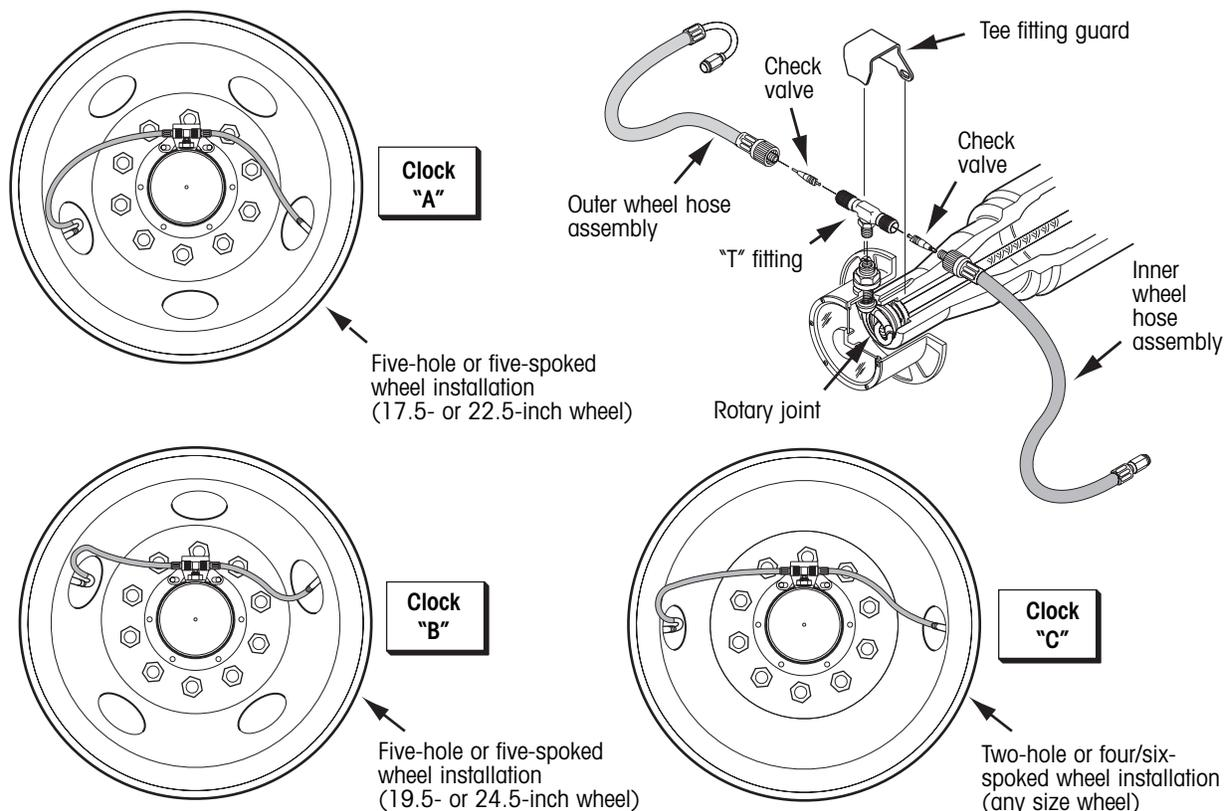

Figure 24. Tee and tire hose installation
1. Position the hubcap and wheel so the hoses will not stretch or rub on the wheel. Refer to figure 24 and the table on this page.
**⚠ CAUTION:** Wheel must be properly “clocked” to the hubcap to prevent the hoses from rubbing on the wheel (figure 24). Failure to do so may result in hose failure.
2. Apply a small amount of thread sealant to the tee fitting swivel threads and screw the tee fitting onto the rotary joint bulkhead adapter. Tighten finger tight then use a wrench to tighten an additional one-quarter turn (figure 24).
5. Attach the tee fitting guard. Remove the two hub cap bolts closest to the rotary joint bulkhead adapter, place the tee fitting guard over the rotary joint bulkhead adapter as shown in figure 24 and reinstall the hub cap bolts through the holes